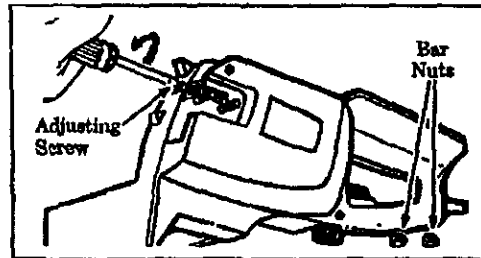

Figure 6
- Turn the adjusting screw (Figure 6) counterclockwise to move the adjusting pin almost as far as it will go to the rear. Do not remove the adjusting screw from the unit.